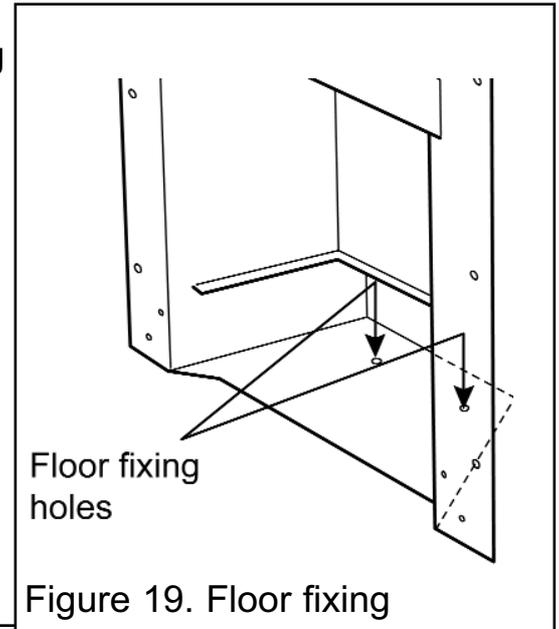

Figure 19. Floor fixing
8. Drill a hole into the fireplace floor through each of the two holes in the base of the convection box using a suitably sized masonry drill bit for the fibre plugs supplied (See figure 19).